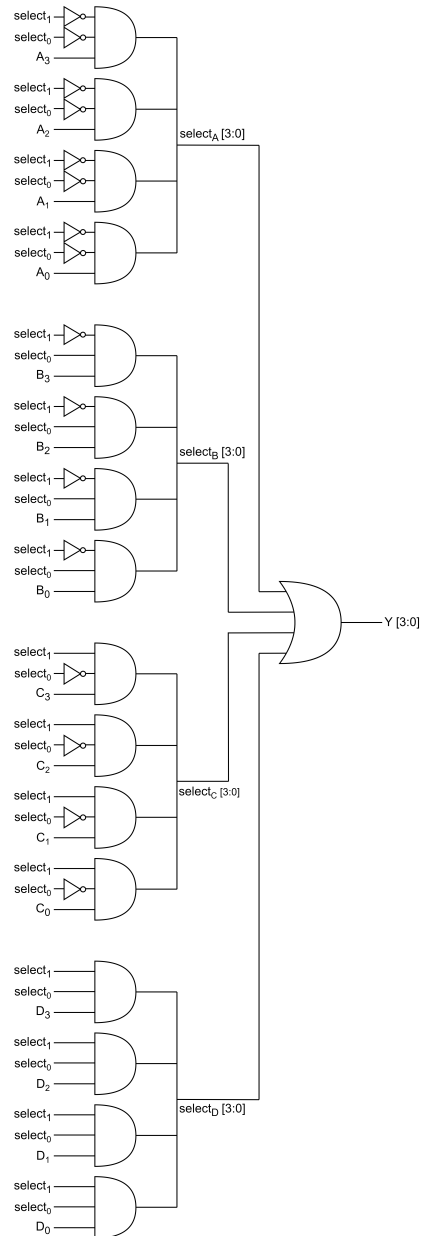

Figure 0.1: 4:1 Multiplexer Block Diagram
5. Implement the structural designed 4:1 multiplexer in the new VHDL file using port maps based on Figure 0.1.
7. Implement the behavioral designed 4:1 multiplexer in the new VHDL file based on Figure 0.1.